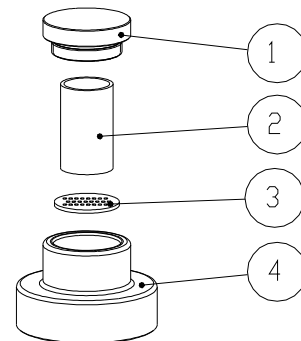

Fig. 3
7.2. Replacement / cleaning of filter in air dryer (Fig.3)